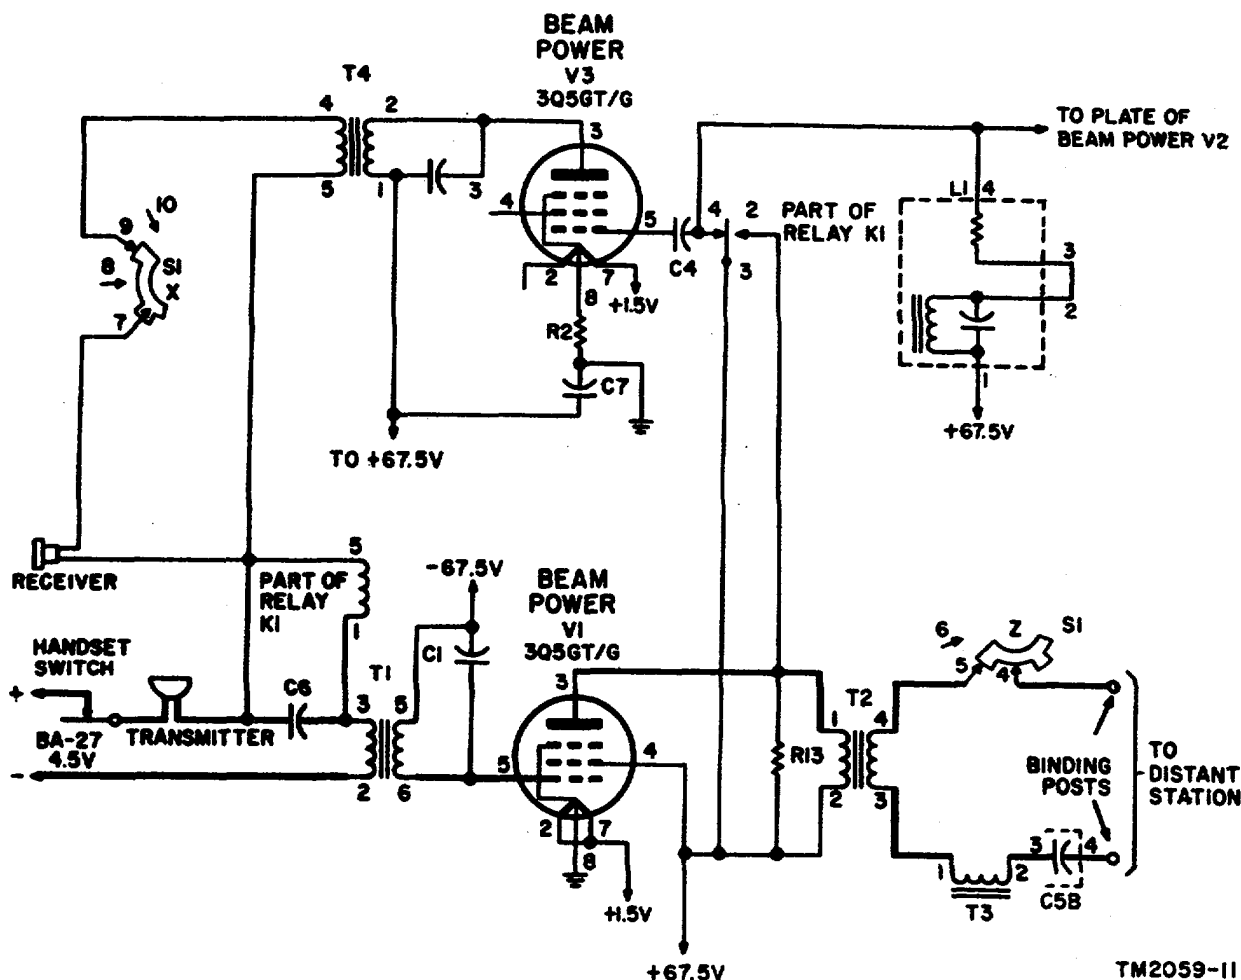

Figure 10. Transmitting circuit with amplification, simplified schematic diagram.
39. Transmitting Circuit With Amplification (fig. 10)